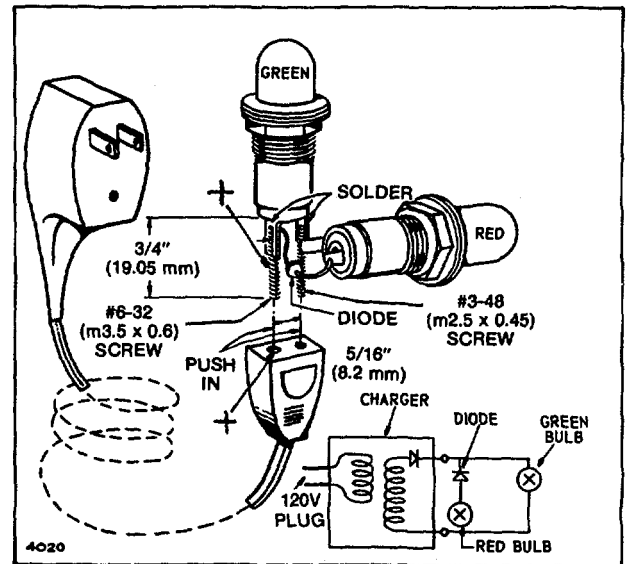

Fig. 52 - Battery Tester
- C. Faulty battery charger. See Fig. 52.
These components are soldered together as shown in the accompanying illustration, Fig. 52. if desired, these components may be fitted to a plastic case.